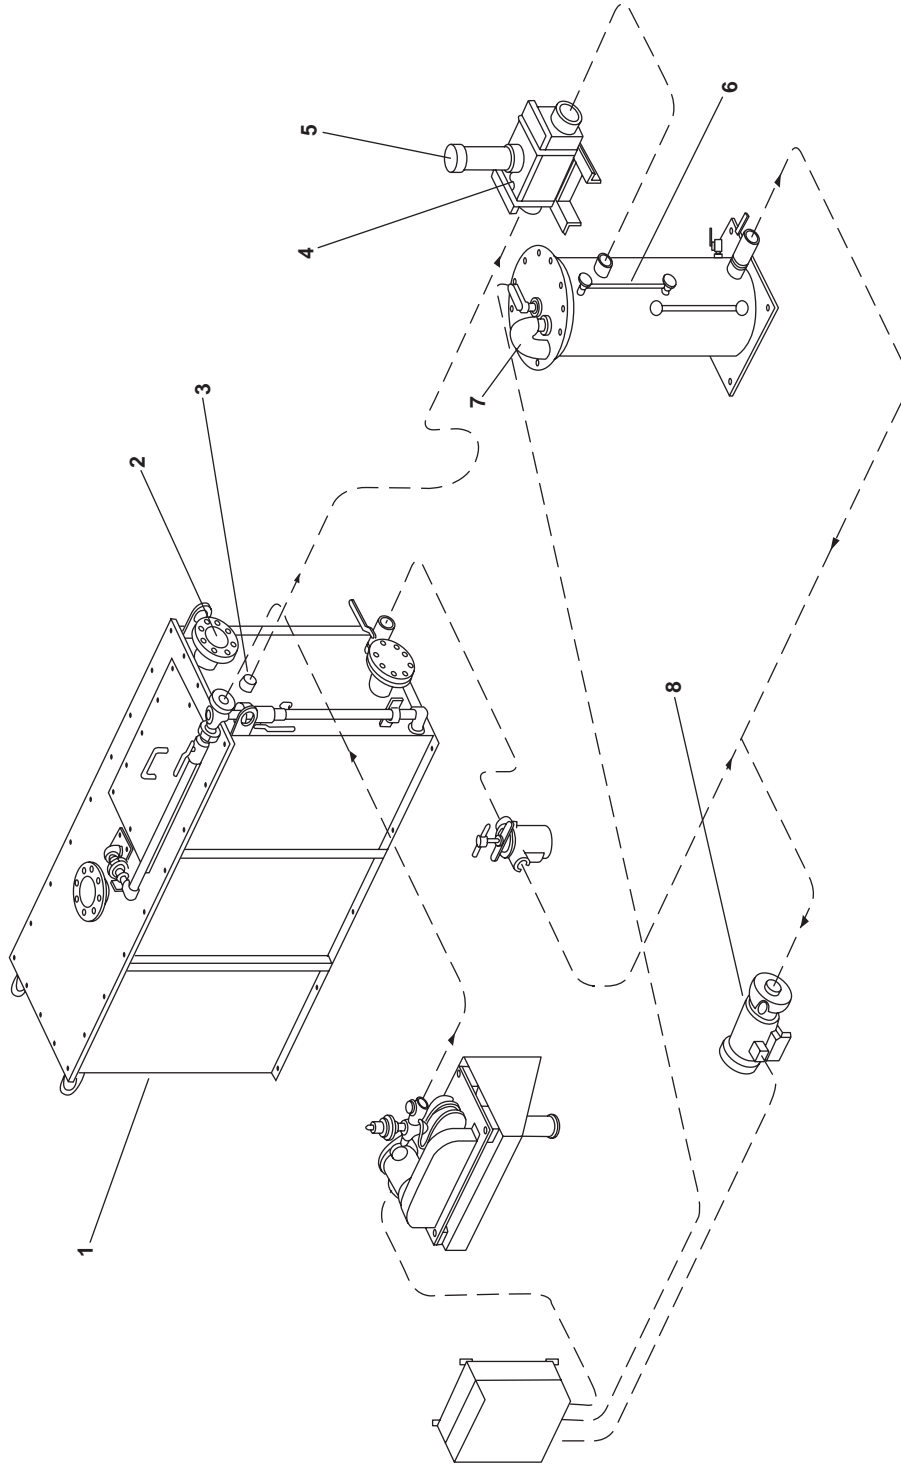

Figure 1. MSD Schematic
The water level in the media tank is maintained at a constant level. As raw sewage enters the media tank via the 4" inlet (figure 1, item 2), an equal volume of treated clear effluent is displaced into the spillover pipe (figure 1, item 3). This effluent passes through the tablet chlorinator (figure 1, item 4), where it is disinfected.
As the water passes through the tablet chlorinator (figure 1, item 4), calcium hypochlorite tablets are dissolved, releasing chlorine into the effluent. The amount of chlorine released is proportional to flow. A full feed tube (figure 1, item 5) holds 20 five-ounce tablets, equaling 6.25 lb (2.83 kg). Expected tablet consumption is determined by water usage. Leaking fixtures will greatly increase water usage and tablet consumption.
Clear and odorless water flows from the media tank (figure 1, item 1) through the spillover pipe (figure 1, item 3) and trap into the wet well (figure 1, item 6). The wet well is a retention tank sized for adequate disinfection time during peak flow periods. The wet well vent (figure 1, item 7) is open to the immediate environment. The disinfected water is discharged overboard by the discharge pump (figure 1, item 8).
The discharge pump (figure 1, item 8) handles the peak flows expected for the system. The pump assembly includes a pump, isolation valve, discharge pressure gauge, float switch for automatic operation, motor, and a motor starter. As the water level in the wet well rises, the "pump on" float switch automatically starts the discharge pump, which discharges the water overboard. When sufficient effluent is discharged from the wet well, the float switch stops the discharge pump.